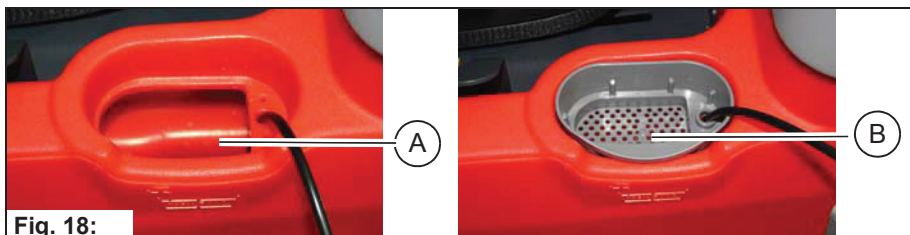

Fig. 18:
2. Remove the insert of the filling opening **Fig. 18-A**.
4. Add detergent according to the manufacturer's regulations via the sieve insert **Fig. 18-B**.